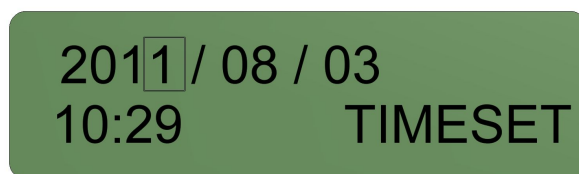

Figure 11: Time setting page
① The time has been set before the machine leave the factory.
② If you want to adjust the time, press the key  to enter into the page of time setting(see Figure 11), press the key  again to switch year, month, day, hour and minute one by one, and the chosen item would flash, then change the data with pressing the key . After setting the time, press the key  to return to the main page and the system will store the data automatically.